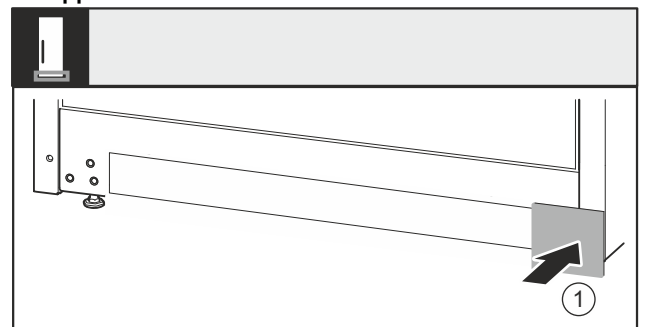

Fig. 38
- ▶ Re-attach the cover Fig. 38 (1) to the other side.